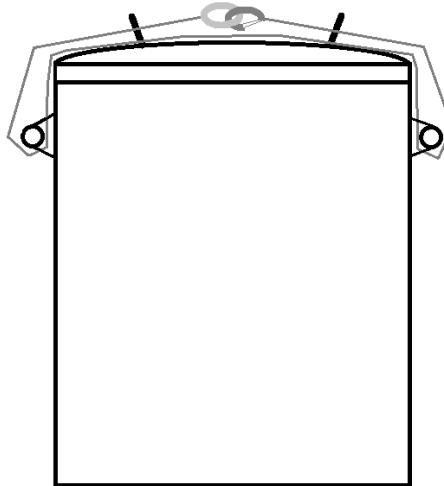

Figure 8: secure cable
- Loop the safety cable through both lid handles and through the handles on both sides of the vessel and then up through the lid handles and secure the two ends together (See Figure 8)